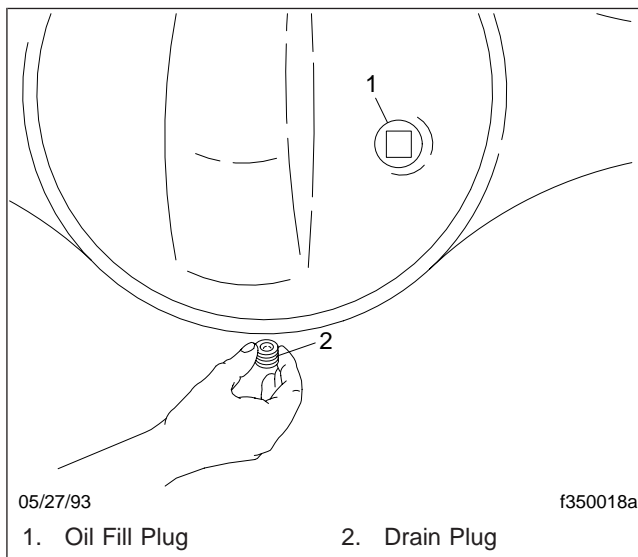

Fig. 5, Axle Housing Drain and Fill Plugs
2. Clean the fill plug and area surrounding it, then remove the plug from the oil fill hole (or standpipe if installed in the oil fill hole) located in the axle housing rear cover. See Fig. 5.
3. Remove the drain plug at the bottom of the axle housing (Fig. 5) and allow sufficient time for all old lubricant to run out.